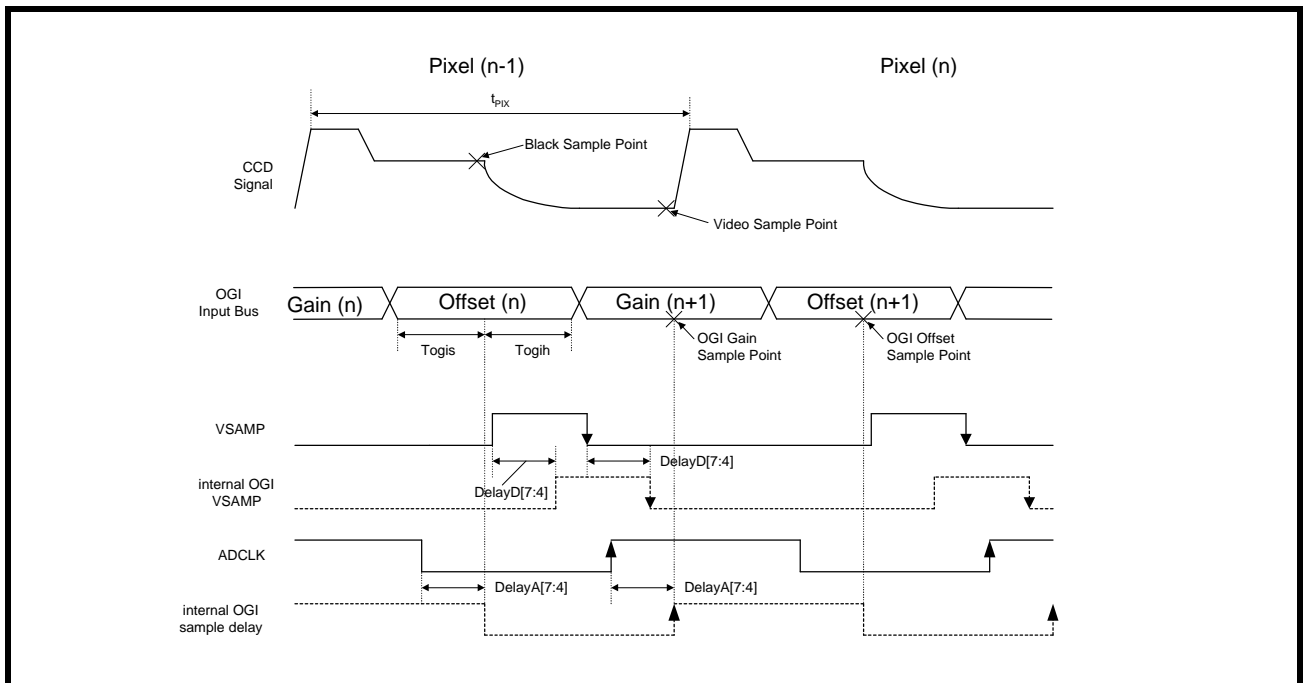

FIGURE 12. OGI TIMING DELAY ADJUSTMENT
DelayA[7:4] controls the OGI sampling delay. These bits program the delay of the ADCLK used to sample the OGI input bus. Delay is added in 1ns increments. See Figure 12.
**Please note the falling edge of the internal VSAMP\_OGI must occur before the rising edge of the OGI sampling clock.** See Figure 12.